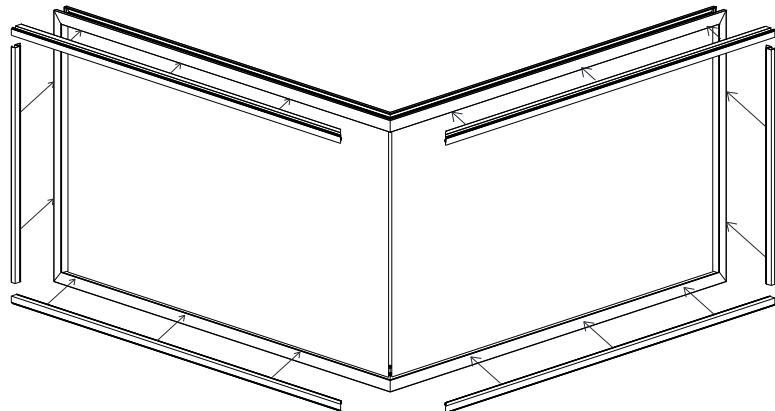

Figure 13:
- Align corner glass panels in frame leaving a 1/4" gap between glass for sealant (Figure 13). Orientation and sealant requirement options shown in Figures 14-15.